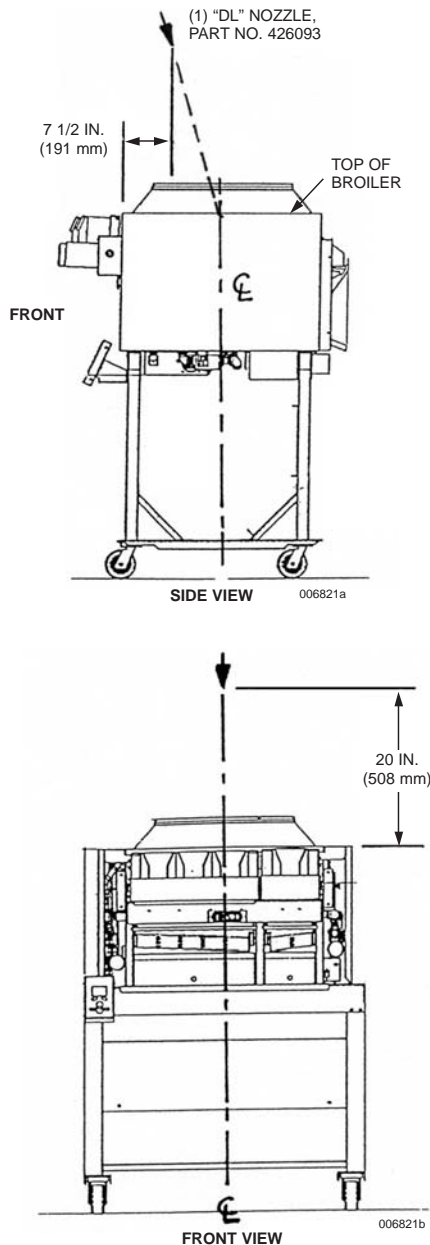

FIGURE 30
- **Nozzle Quantity/Type:** One (1) “DL” nozzle, Part No. 426093
- **Nozzle Height:** 20 in. (508 mm) above top of appliance. See Figure 30.
- **Nozzle Location:** 7 1/2 in. (191 mm) back from front edge of appliance. See Figure 30.
- **Nozzle Aiming Point:** Aim at center of broiler top. See Figure 30.